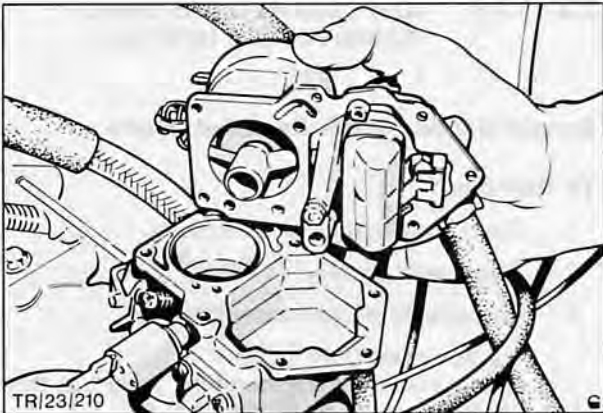

Fig. 27. Removal of carburettor upper body
6. Remove seven screws, lift off carburettor upper body, disconnect choke link and position clear of carburettor, Fig. 27.